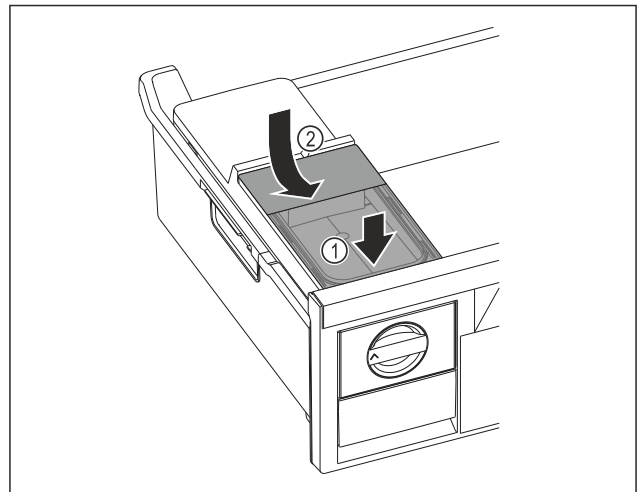

Fig. 181
- Position the water tank at the front. Fig. 181 (1)
- Lower the water tank at the rear. Fig. 181 (2)